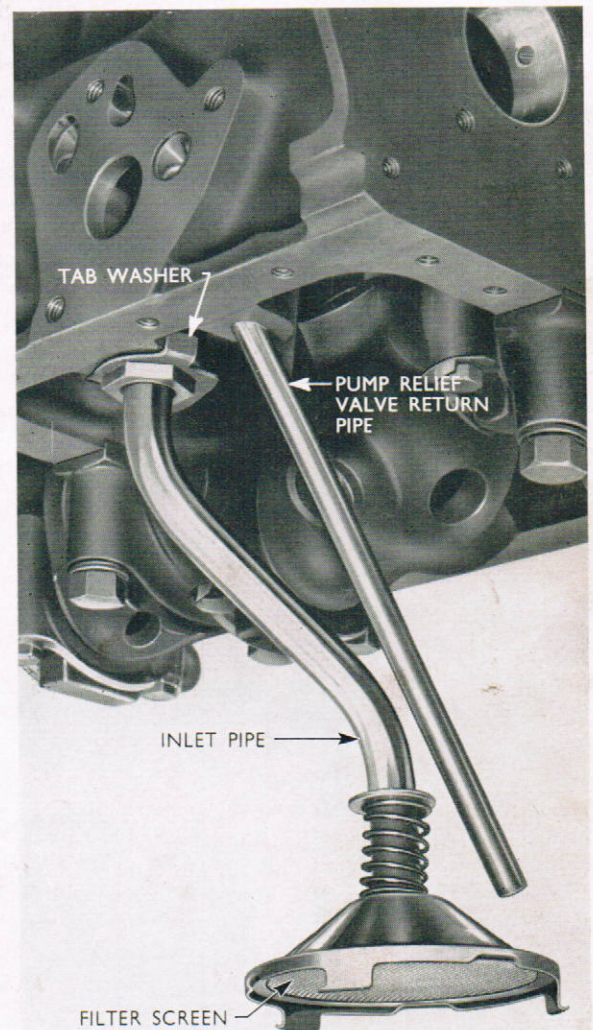

Fig. 20
11. (a) **Replace the oil pump inlet pipe** (if removed). Fit a new tab washer (see Fig. 20) to the union nut, also ensure that this pipe is located so that the filter screen housing will not foul the pump baffles. Securely tighten the union retaining it in place with a tab on the washer.